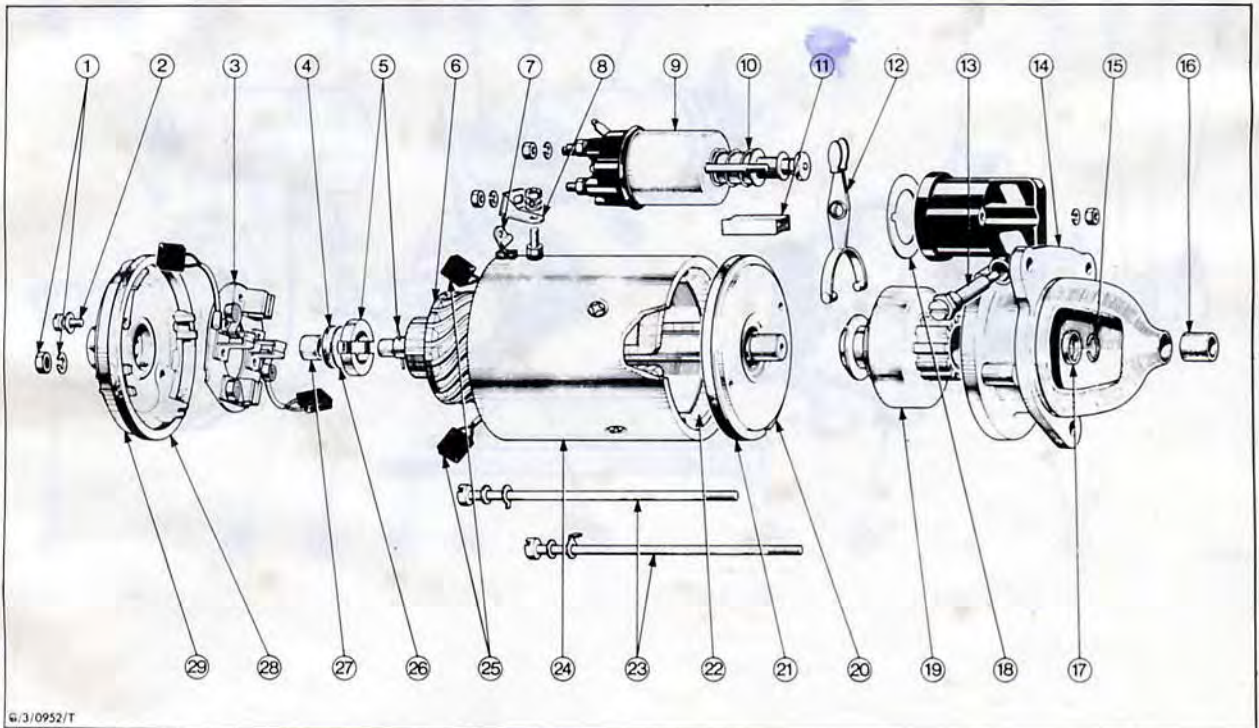

Fig. 4. Lucas M50G (Pre-engaged) Starter motor
This starter motor is a four pole, four brush motor with a series wound field and a solenoid operated roller clutch drive, Fig. 4. item 19.